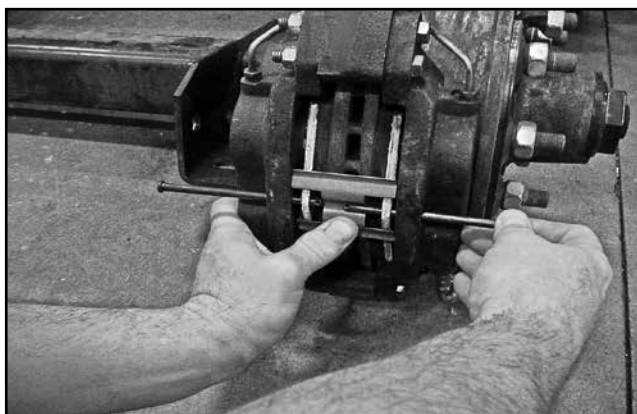

Figure 1
4. Align the brake pad mounting holes with the holes in the caliper. Insert one of two brake pad retaining pins into each caliper half as shown below in **Figure 1**. Place the anti-rattle spring against the brake pads and press the center toward the rotor while you slide the outboard pad retaining pin toward the inner lining. Continue sliding the pad retainer pin until it engages both pads and pushes the second pin out of the inboard caliper half. Install cotter ring.
6. Reassemble the brake pads into the disc brake. Make sure to locate the brake lining side of the pads toward the rotor surface, and the steel side of the pads toward the calipers. Align the brake pad mounting holes with the holes in the caliper. Insert one of two brake pad retaining pins into each caliper half as shown previously in **Figure 1**. Place the anti-rattle spring against the brake pads and press the center toward the rotor while you slide the outboard pad retaining pin toward the inner lining. Continue sliding the pad retainer pin until it engages both pads and pushes the